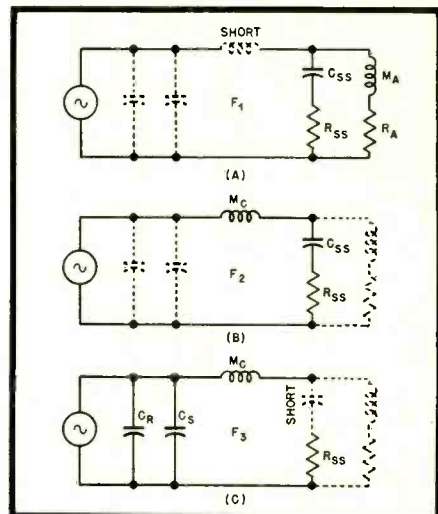

Fig. 16-6. Equivalent circuits of the pickup mechanical system of Fig. 16-4, with significant elements at the three major resonances shown in solid line.
We may withdraw the circuit for F_1 , as in (A) of Fig. 16-6, ignoring those elements that are not significant at the bass frequencies involved, and we find that we have a parallel resonant arrangement, with maximum impedance at the resonant frequency (maximum force has to be exerted on the stylus to make it follow the groove, since the whole tone arm must be swung out of phase) and maximum loop current at resonance (the moving element has maximum velocity relative to the cartridge and arm).